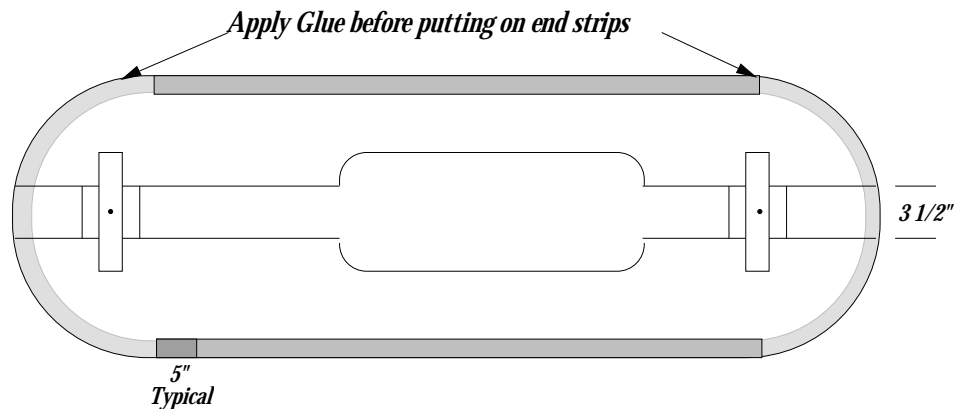

Figure 12
- Put on the second side strip, Work out wrinkles and “set” the joint with a small block, etc. Now apply a coat of contact cement to the last 5” of the side strips, where the end strips will overlap. (see Figure 12)